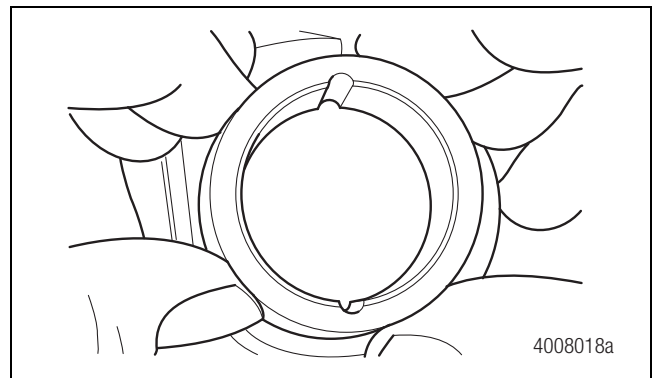

Figure 6.42
1. Align the new oval bronze bushing with the markings made on the housing previously. Figure 6.42.